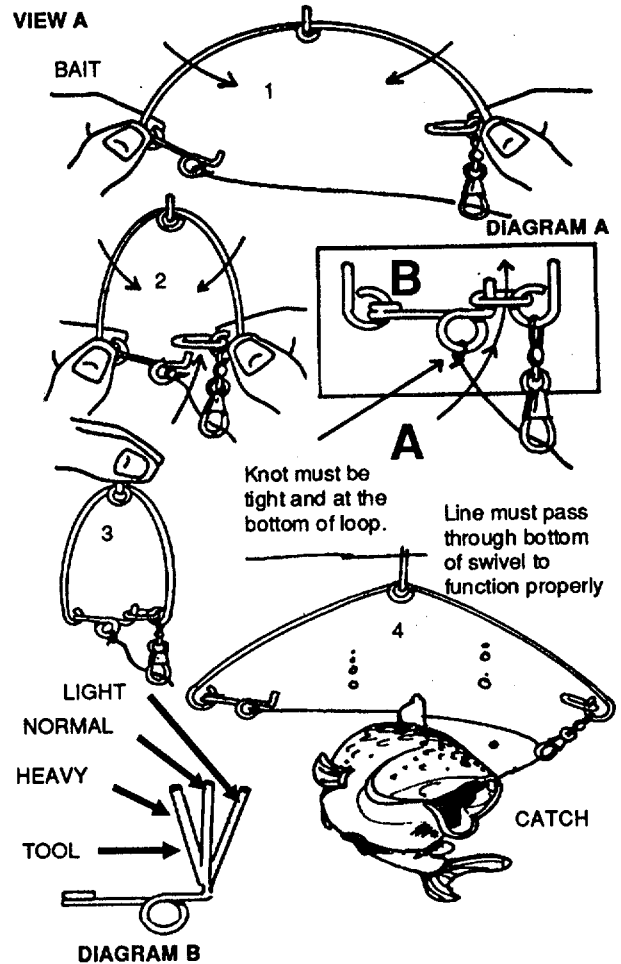

Figure 2-58. Speedhook, Snare
- aj. Speedhook, Snare. The speedhook, snare (See Figure 2-58) is used to snare fish and animals.